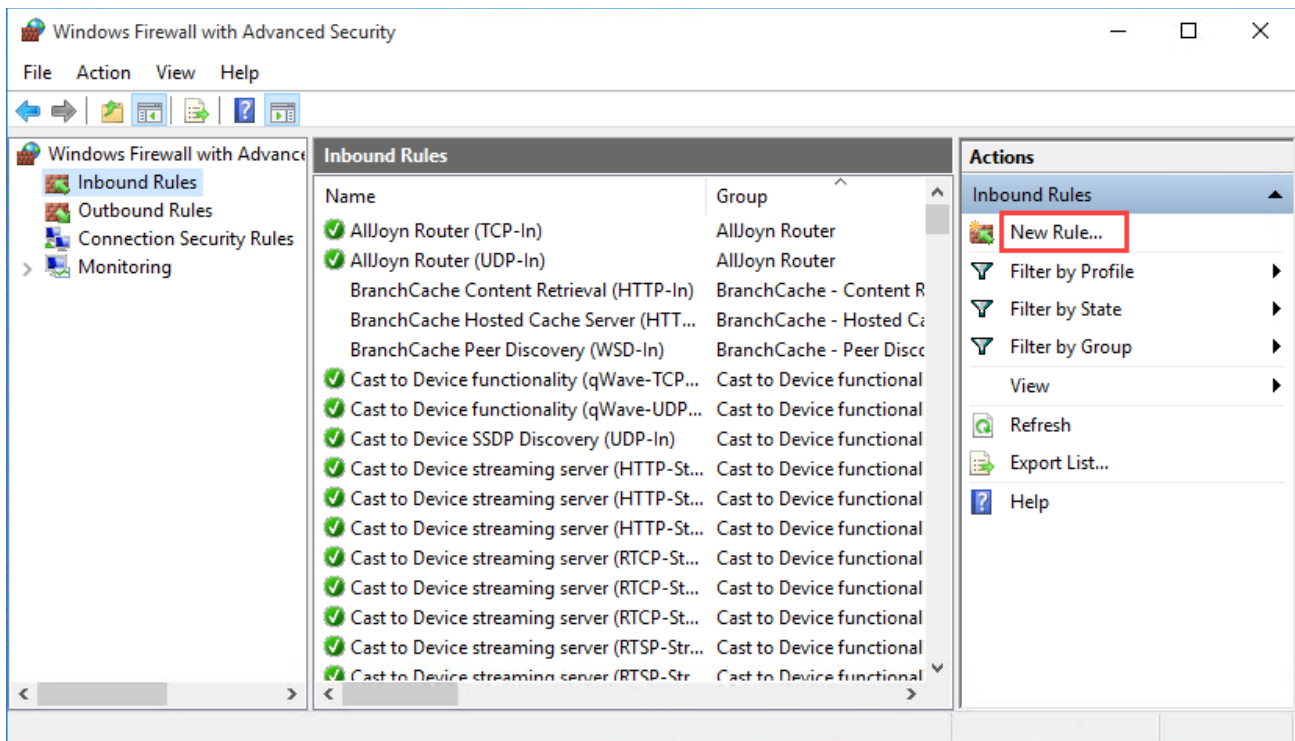

Figure 133: Creating a New Inbound Rule
1. Open the **Windows Firewall with Advanced Security** window (Figure 133). For quick access: